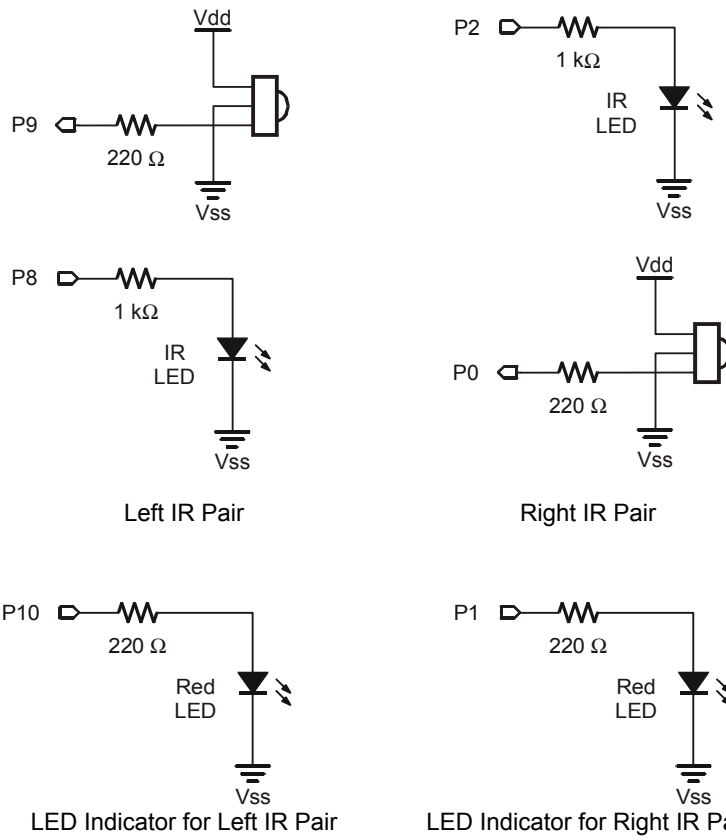
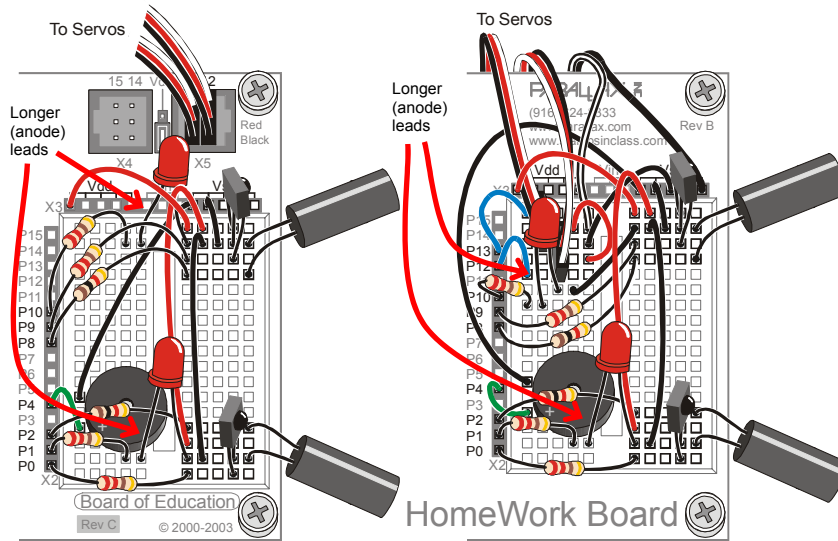

Figure 3-1
Figure 3-2
Figure 3-1 shows the circuits for IR detection and user indicators from *Robotics with the Boe-Bot*, Chapter 7, Activity #2, and Figure 3-2 shows a way to build these circuits with wiring diagrams.
- √ Build the circuits shown in Figure 3-1 and Figure 3-2.